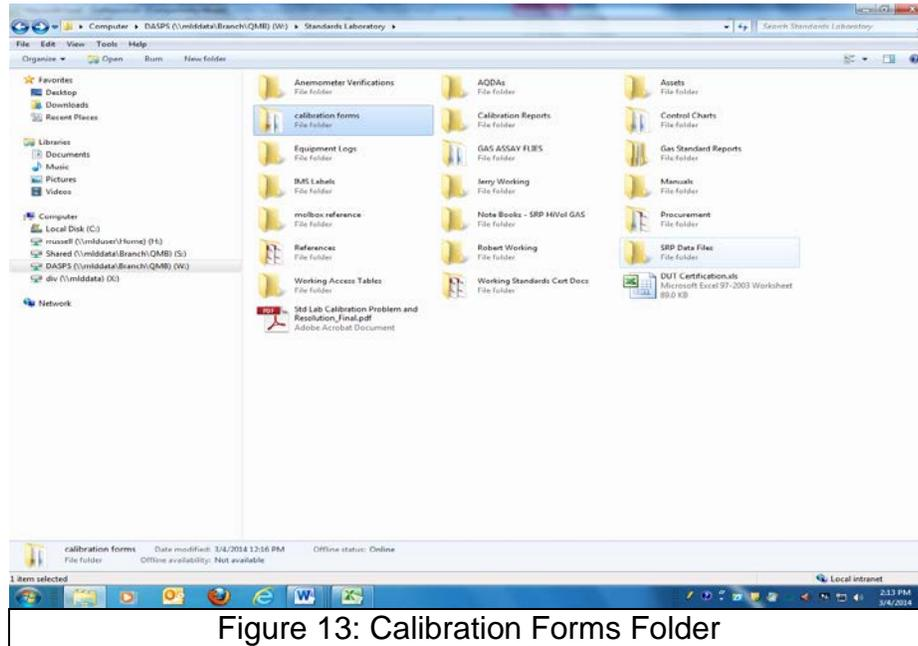

Figure 13: Calibration Forms Folder
12.6 Double Click on the “Calibration Forms” folder. See Figure 13.